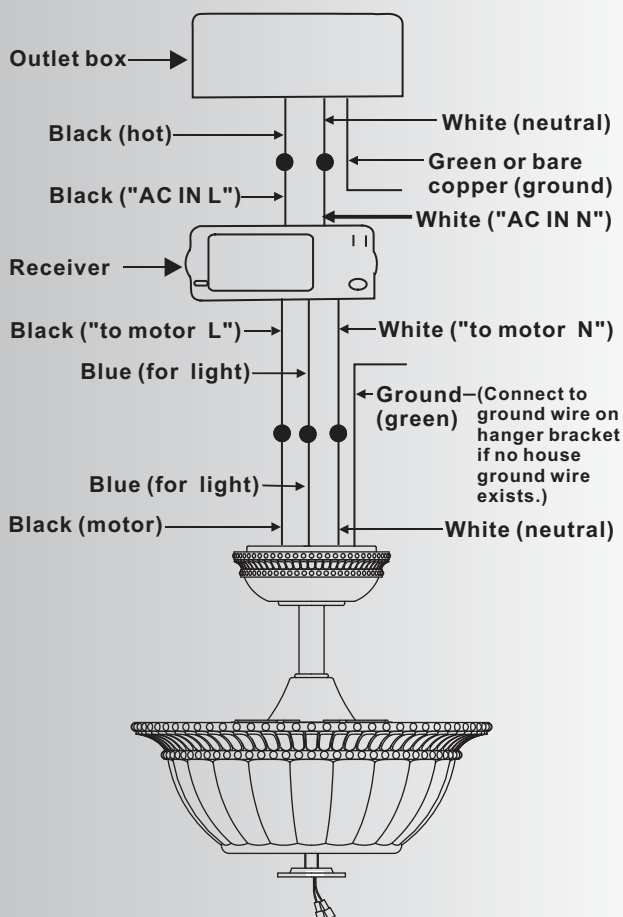

Fig. 14
**Step 2.** (Fig. 14) Motor to Receiver Electrical Connections: Connect the black wire from the fan to black wire marked "TO MOTOR L". Connect the white wire from the fan to the white wire marked "TO MOTOR N" from the receiver. Connect the blue wire from the fan to the blue wire marked "For Light" from the receiver. Secure the wire connections with the plastic wire nuts provided.
**Step 3.** (Fig. 14) Receiver to House Supply Wires Electrical Connections: Connect the black (hot) wire from the ceiling to the black wire marked "AC in L" from the receiver. Connect the white (neutral) wire from the ceiling to the white wire marked "AC in N" from the Receiver. Secure the wire connections with the plastic wire nuts provided.
**Step 4.** (Fig. 14) If your outlet box has a ground wire (green or bare copper) connect it to the fan ground wires; otherwise connect the hanging bracket ground wire to the mounting bracket. Secure the wire connection with a plastic nut provided. After connecting the wires, spread them apart so that the green and white wires are on one side of the outlet box and black and blue wires are on the other side. Carefully tuck the wire connections up into the outlet box.